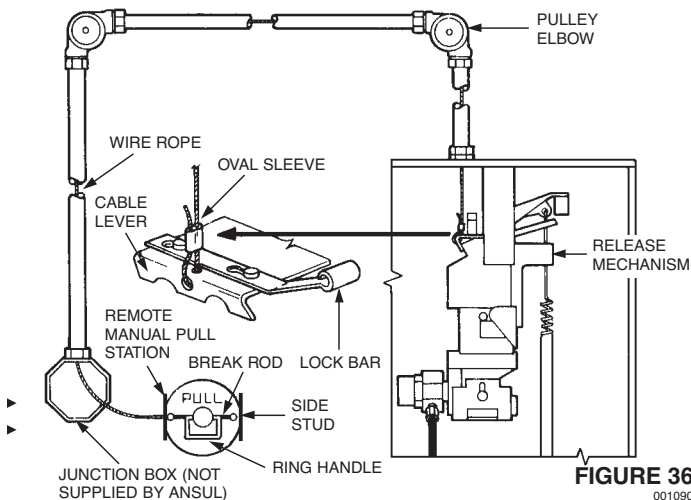

FIGURE 36
3. Install and secure 1/2 in. conduit, pulley tee (if required), and pulley elbows from each pull station junction box to regulated release assembly as necessary. See Figure 36.
- ▶ 6. Slide oval crimp sleeve onto wire rope. Loop wire rope through cable lever guide holes and back through the oval crimp sleeve. See Figure 36.
- ▶ 7. Pull slack out of each wire rope and crimp sleeve. (Use the National Telephone Supply Company Nicopress Sleeve Tool Stock No. 51-C-887 or equal to properly crimp stop sleeve.) See Figure 36.